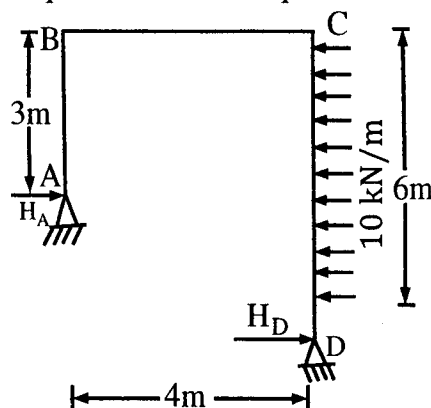

Fig. 2
- Q.2 Identify the unknowns in terms of slope and deflection in the given problem shown in Fig.2. Write down the slope deflection equations for the portal frame ABCD shown in Fig.2. Also, write the conditions available, equilibrium equations and shear equation (if required) to find the unknowns. (Solution of equations is not required to find unknowns).
Q.1 Analyze the rigid frame shown in (fig. 2) using slope deflection method. Draw the BMD.
(Fig. 2)